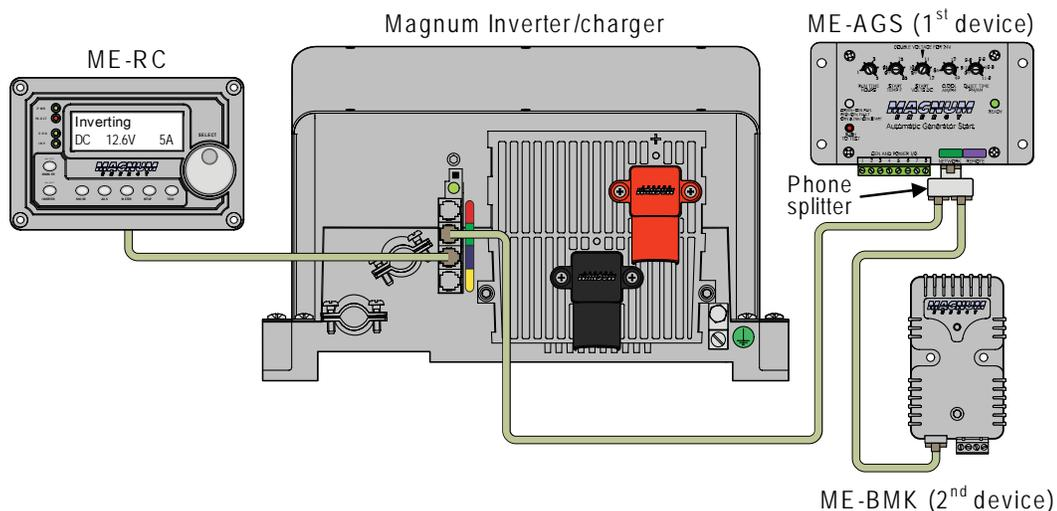

Figure 2-5, Multiple Network Devices - Daisy-Chain Configuration
- **Daisy-Chain Configuration** - In the daisy chain arrangement, the network devices are linked in series (see figure 2-5). If using this configuration, the ME-AGS must be the first device connected to the inverter’s “Magnum Net” or “network” port - then followed by the ME-BMK.